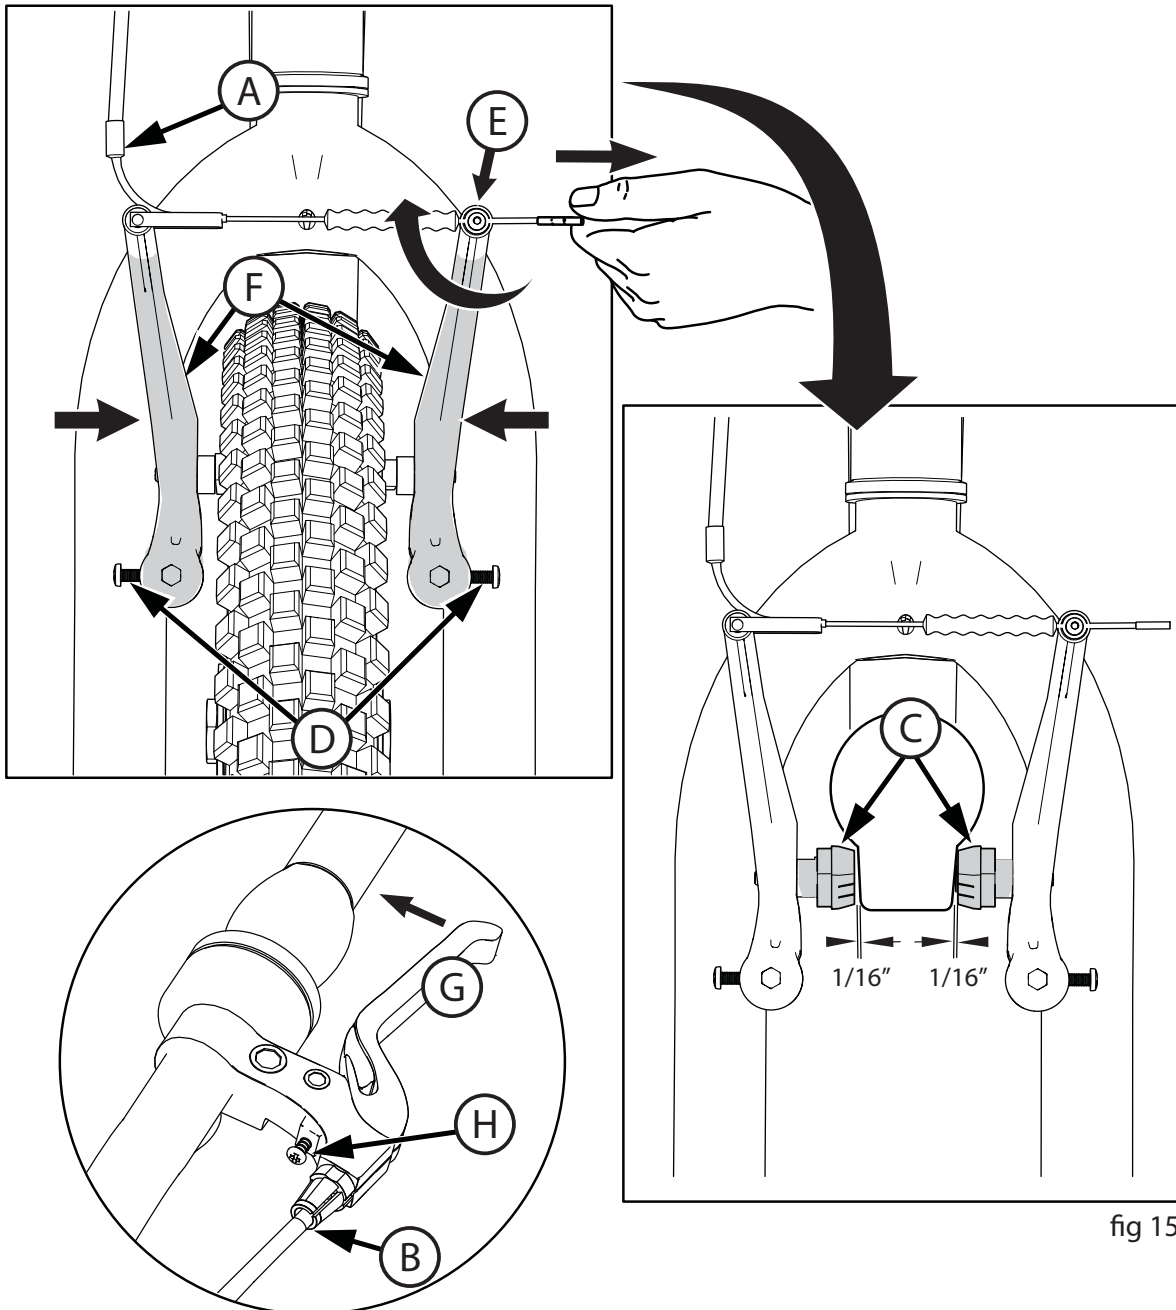

fig 15
Put the brake shoes the correct distance from the rim (fig 15):
1. Repeat these steps until the brake shoes are 1/16 inch from the rim and the Brake Lever (G) does not go all the way to the grip when squeezed (**fig 15**).
Test the tightness of the cable clamp (**fig 15**):